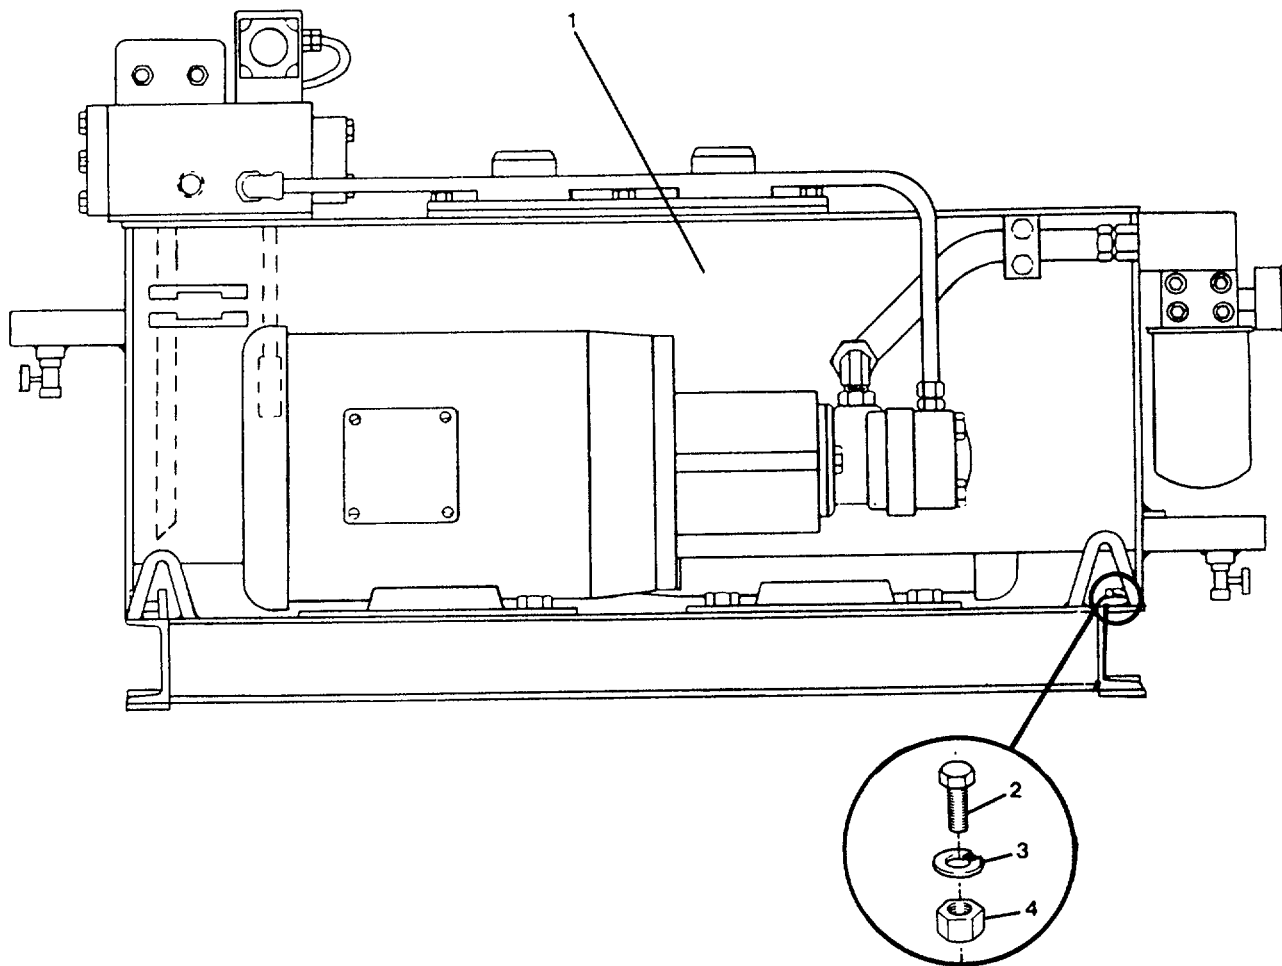

FIGURE 4-6. Twin Pumpset Assembly.
- (1) Install machine key (26) in slot on straight shaft.
- (2) Install hand wheel (not shown) on straight shaft (27) and secure with bolt (25).
**4-13. Repair Twin Pumpset Assembly. (FIGURE 4-6)**